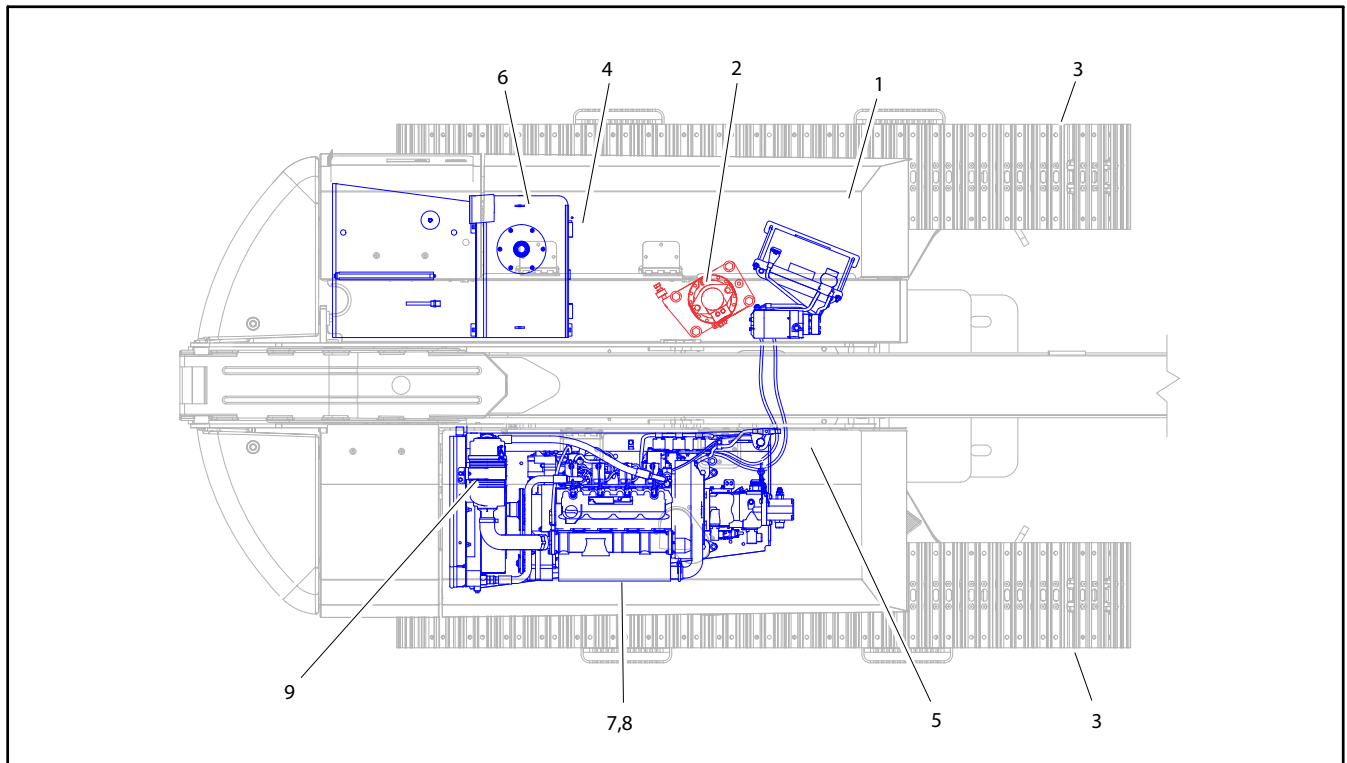

Figure 1-1. Maintenance and Lubrication
**NOTE:** The following numbers correspond to those in Figure 1-1., Maintenance and Lubrication.